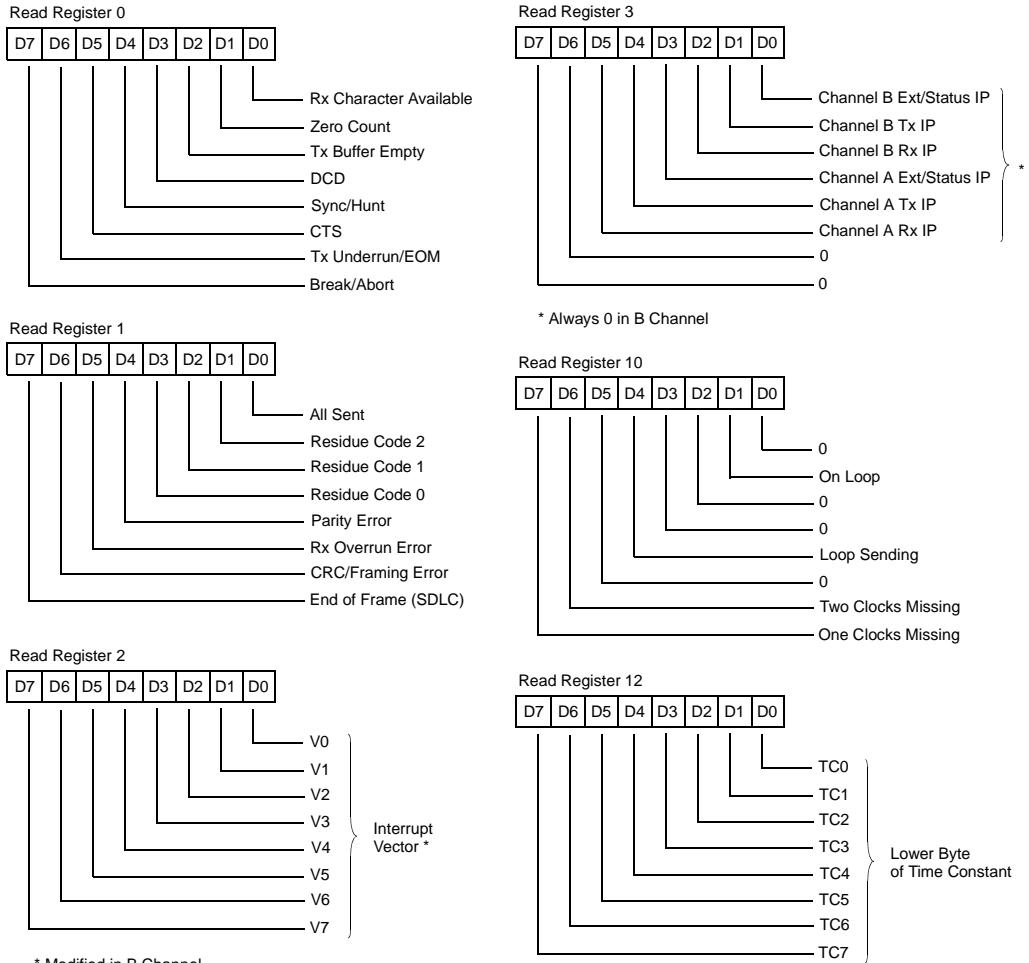

Figure 19. Read Register Bit Functions
The SCC contains ten read registers (eleven, counting the receive buffer (RR8) in each channel). Four of these may be read to obtain status information (RR0, RR1, RR10, and RR15). Two registers (RR12 and RR13) are read to learn the Baud Rate Generator time constant. RR2 contains either the unmodified interrupt vector (Channel A) or the vector modified by status information (Channel B). RR3 contains the Interrupt Pending (IP) bits (Channel A only –, Figure 19). RR6 and RR7 contain the information in the SDLC Frame Status FIFO, but is only read when WR15 D2 is set (Figures 19 and 20).